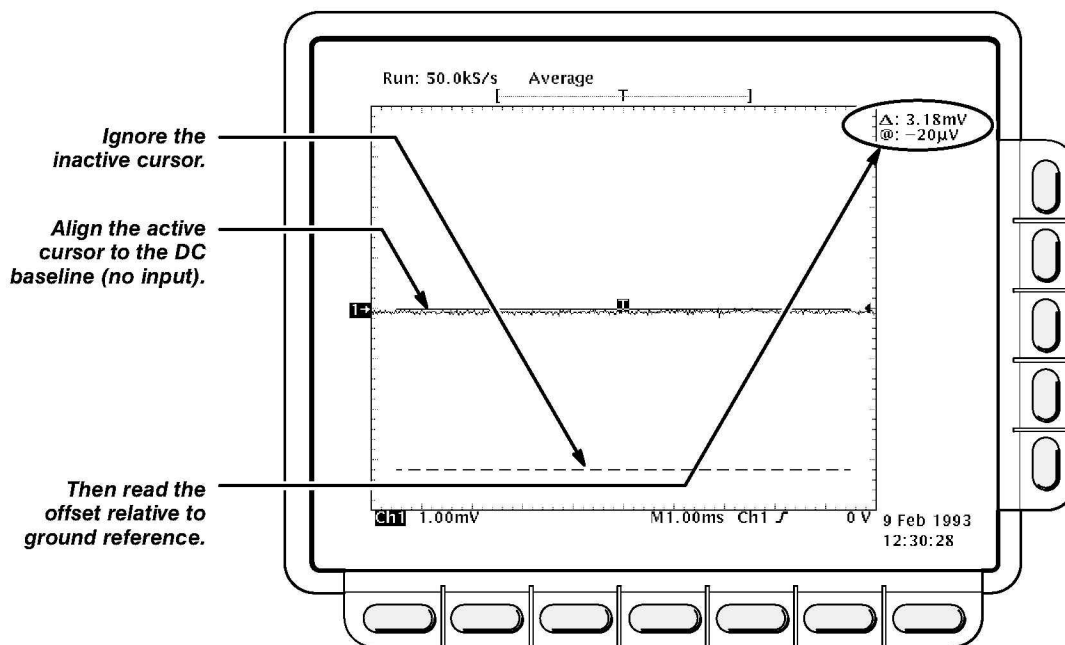

Figure 4-4: Measurement of DC Offset Accuracy at Zero Setting
- e. Read the measurement results at the absolute (@:) cursor readout, not the delta (Δ:) readout on screen (see Figure 4-4).